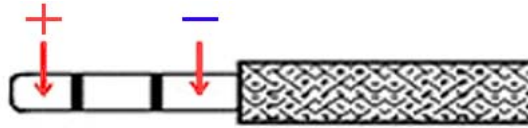

Fig.5. The polarity of jackplug of power cable.
4. Insert the jackplug of cable of AC/DC adapter into connector "+12V DC" (3). The AM-07M is operationally ready. Figure 5.